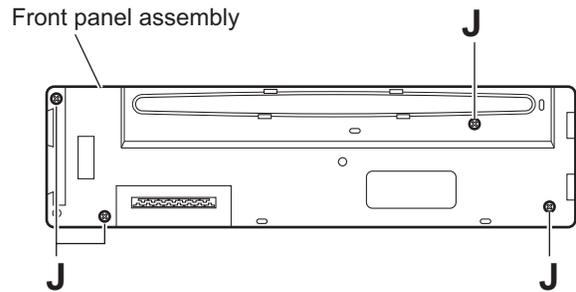

Fig.8
(See Figs. 8 to 10)**
- (1) Remove the four screws **J** on the back side of the front panel assembly. (See Fig.8)